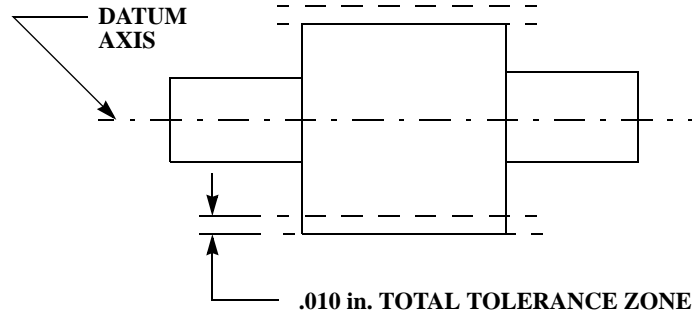

FIGURE 4: CIRCULAR RUNOUT
- 2.5.2. Machined diameters must be within the specified tolerance of size and any element of their surface must lie within two parallel lines (0.010 inches apart and parallel to the datum axis) while the part is rotated through 360° on the datum axis, i.e maximum Full Indicator Movement (FIM) = 0.010 inches. Ref. Figure 4.